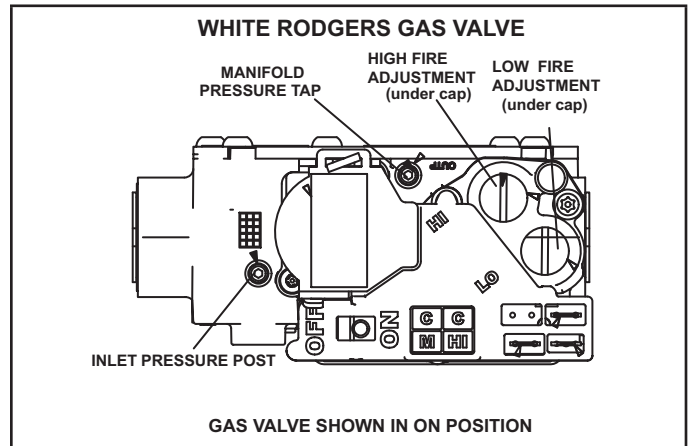

FIGURE 48
#### Gas Valve Operation (FIGURE 48)
- 6 - Move gas valve switch to **OFF**. See FIGURE 48.
- 8 - Move gas valve switch to **ON**. See FIGURE 48.
An inlet pressure post located on the gas valve provides access to the supply pressure. See FIGURE 48. Back out the 3/32 hex screw one turn, connect a piece of 5/16 tubing and connect to a manometer to measure supply pressure. See TABLE 19 for supply line pressure.
A manifold pressure post located on the gas valve provides access to the manifold pressure. See FIGURE 48. Back out the 3/32 hex screw one turn, connect a piece of 5/16 tubing and connect to a manometer to measure manifold pressure. To correctly measure manifold pressure, the differential pressure between the positive gas manifold and the negative burner box must be considered.
- 4 - After allowing unit to stabilize for 5 minutes, record low fire manifold pressure and compare to value given in TABLE 19. If necessary, make adjustment. FIGURE 48 shows location of low fire adjustment screw.
- 5 - Repeat on high fire and compare to value given in TABLE 19. If necessary, make adjustment. FIGURE 48 shows location of high fire adjustment screw.